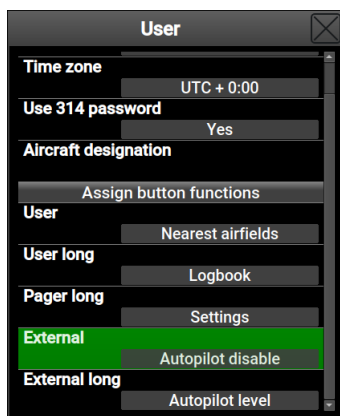

Figure 3.12: External push button configuration. The example shows autopilot settings, but any other functions can be used instead.
3. Scroll down the window and search for the **External** and **External long** items. Assign them functions of your choice. A typical example is shown on Figure 3.12. **External** represents the short press event on the external button and the **External long** represents the long press event.